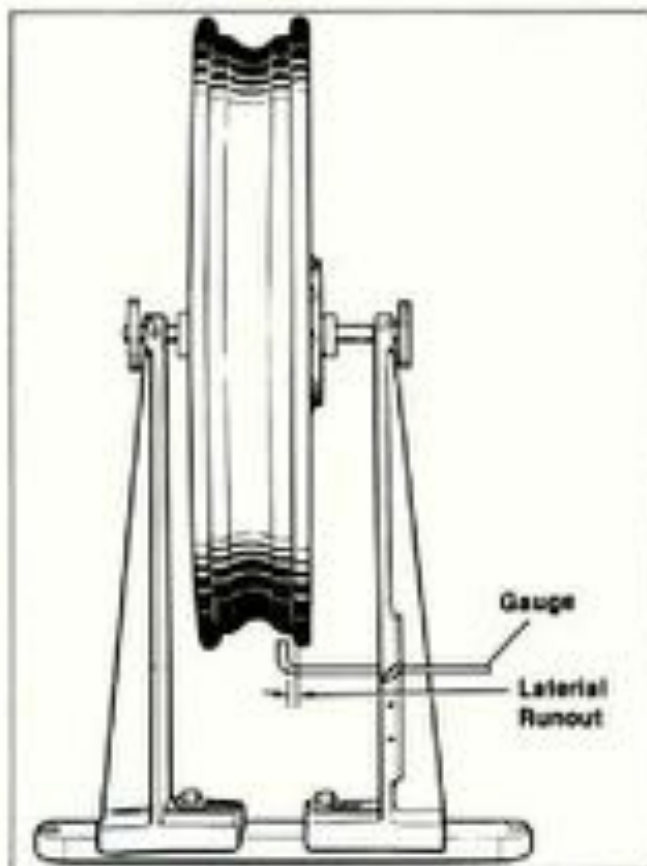

Figure 2-30. Checking Cast Rim Lateral Runout
1. See Figure 2-30. Install arbor in the wheel hub and place wheel in the truing stand. To check rim lateral runout, place a gauge rod or dial indicator near the rim bead. If lateral runout exceeds 3/64 in., replace the wheel.